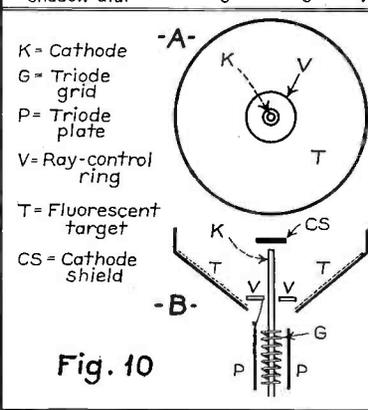

Fig. 10
Annular ring visual indicator tubes are comprised of two parts, one part consisting of a triode, and the other part of a special type of cathode-ray tube (see Fig. 10). The cathode (K) extends upward and is common to both the triode and cathode ray tube. The cathode shield (CS) is so located as to prevent any direct light from the hot cathode being visible. The ray-control electrode (V) consists of a flat metal ring which is located near the bottom of the fluorescent target and is separated therefrom by means of an insulating washer. This ray-control ring controls the size of the shaded annular ring pattern and it is internally connected to the triode plate (P). The fluorescent target (T) is inclined at an angle with respect to the cathode.
Now consider Fig. 10. The hot cathode (K) is emitting electrons in all directions and since the fluorescent target (T) is positive with respect to the cathode, the target draws these electrons to it. Since the target is coated with a fluorescent substance it becomes illuminated when subjected to this electron bombardment. Now, if the negative avc voltage were so high as to produce a complete triode plate current cut-off, the ray-control ring would be at exactly the same potential as the target since there would be no voltage drop in resistor (R), and consequently the whole target would be illuminated. Complete plate current cut-off is not entirely attained with the result that there is a small voltage drop in resistor (R). Consequently the ray-control ring is slightly negative with respect to the target, this resulting in an electrostatic field between target and ray-control ring of such nature that the electrons are slightly repelled from the